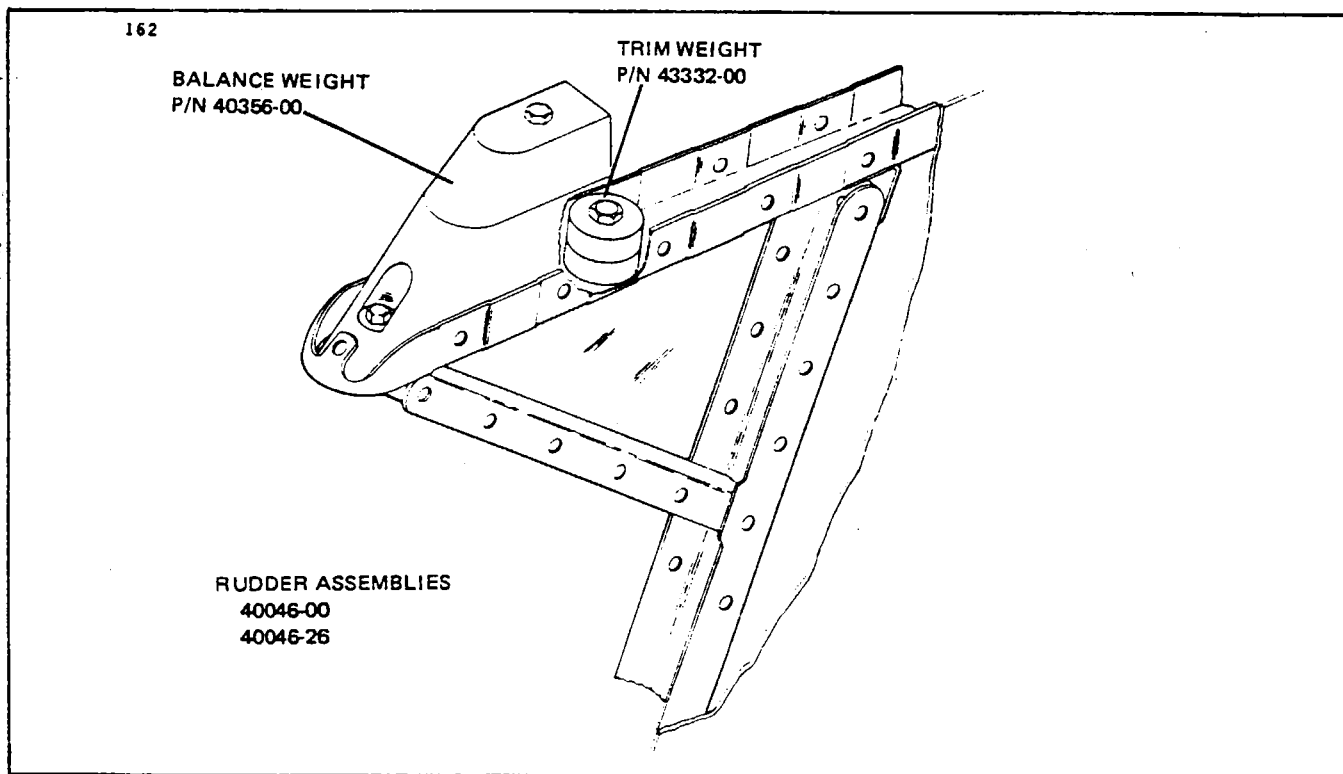

Figure 4-22. Balancing Rudder
1. For rudder P/N 40046-00 and 40046-26 (Refer to Figure 4-22).